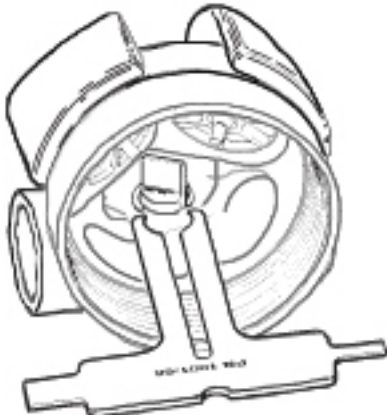

Figure 23 - Removal of anti-venturi vane
18. While holding the box bottom secure, place the tines of the Micra pre-adjustment tool (PN 100168) - or two medium blade screwdrivers if this specialty tool is not available - squarely against the ends of the circlip (see Figure 23). Gently press the circlip off the anti-venturi vane, and set it aside.